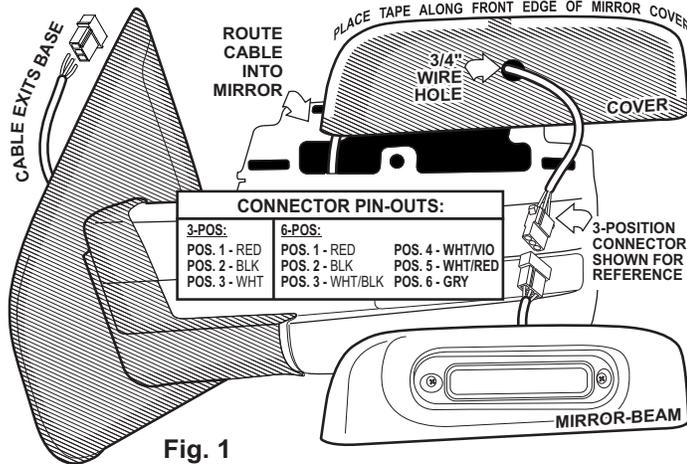

Fig. 1
1. Following manufacturers instructions, remove the mirror assembly cover and mark the wire hole location onto the front of the cover. The wire hole should go in the approximate center front of the cover, lining up with the wire coming from the lighthouse (Fig. 1).
1. Insert the ty-wrap into the front of the mirror assembly (Fig. 1) and rout the Mirror-Beam™ cable into the assembly and out the base, following the path of the mirror assembly harness. There should be 4 to 5" of cable protruding from the front of the mirror assembly.
3. Remove the ty-wrap from the cable. Install the connector (supplied) onto the end of the cable coming from the front of the mirror assembly (see Fig. 1 for connector pin-outs).